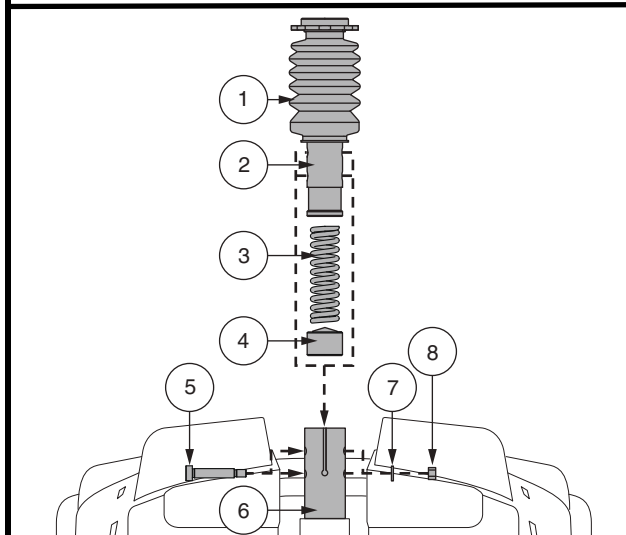

Figure 18. Seat Height Adjustment - Comfort Seat Post
4. Push down on the seat post while loosening and removing the shoulder bolt, washer, and nut. **See figure 18.**
6. Install the desired spring. **See figure 18.**